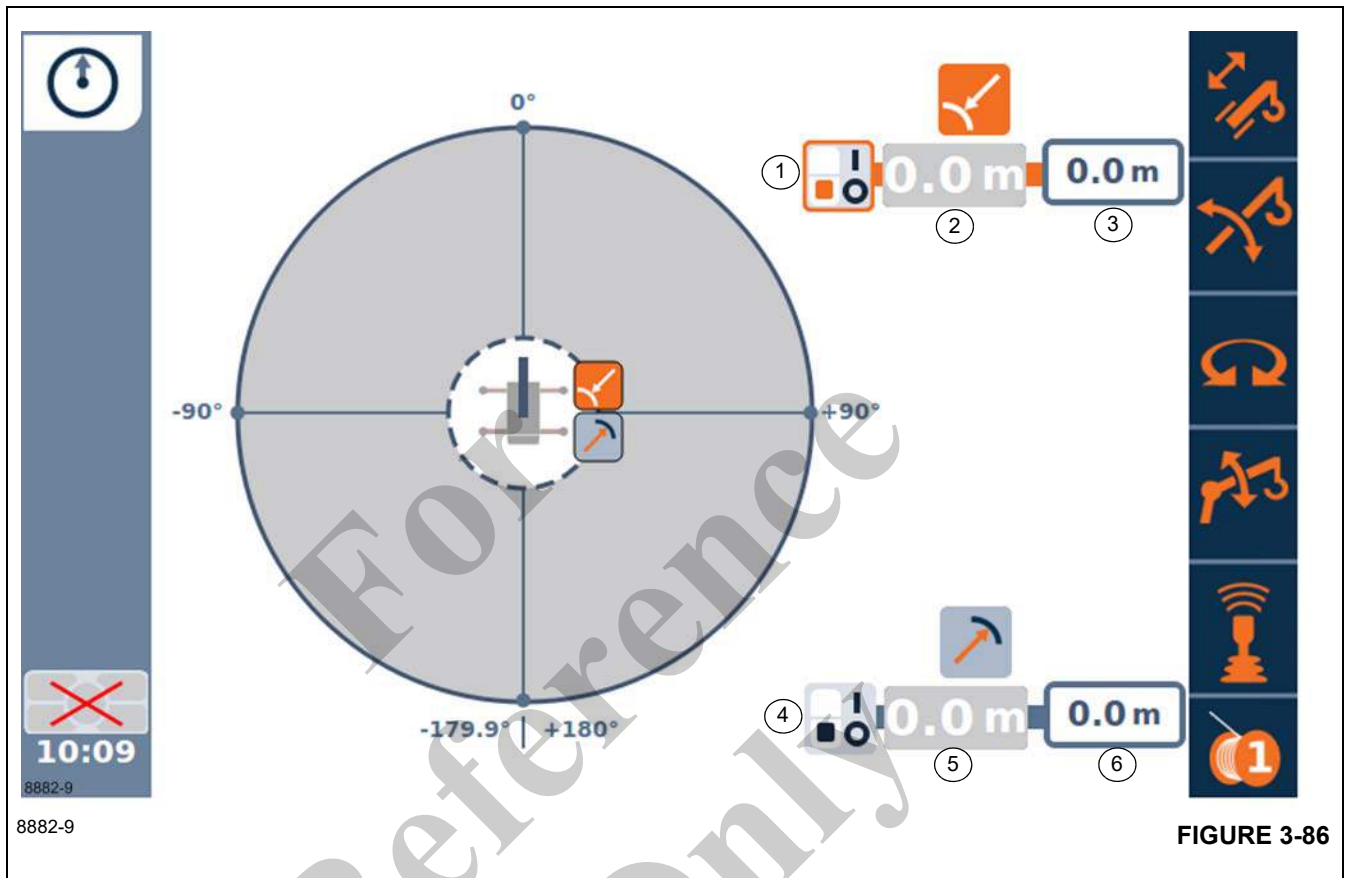

FIGURE 3-86
The Working Radius Menu (Figure 3-86) allows the operator to set minimum and maximum radius limits for the boom.
- Select the ON/OFF Symbol to enable Working Radius function (Figure 3-86) on the Main Menu Screen.
2. Select the Radius Limitation Screen (Figure 3-86) on the Main Menu Screen.
5. Use the Right Arrow function once to highlight the current outer radius (5). Use an OK button to accept the current crane position to be the Limitation Value. The Limitation Value should now be updated on the screen. **Note** that the boom is now at the limitation, so alarm will sound. The boom can now be moved away from the current radius to cease the alarm.
1. Select the Working Radius Menu screen (Figure 3-86) on the Main Menu Screen.
2. Use the Right Arrow function to highlight the Switch symbol (1).
4. Use the Right Arrow function to highlight the Maximum Working Outside Radius Value (3). Use an OK button to begin entering the value. Use the Up Arrow or the Down Arrow or jog dial to change the value (in tenths) to the desired boom elevation value. Use an OK button to finish entering the value. **Note** that the boom may now be at the limitation (depending on the value entered), so alarms may be active. The boom can now be moved away from the current boom elevation to cease the alarm, if needed.
1. Select the Radius Limitation Screen (Figure 3-86) on the Main Menu Screen.